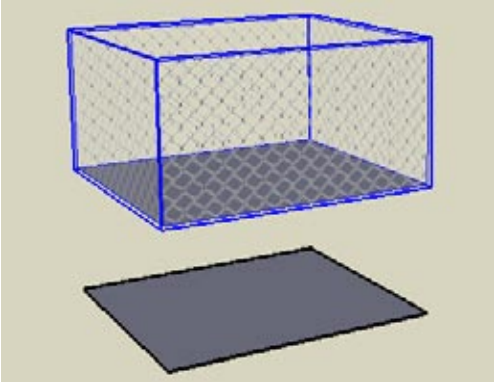

Figure 4-51
3. Select the original box (not including the copied face) and make it a group (Figure 4-51). This is so that the fence faces won't be broken when objects are added inside the box.